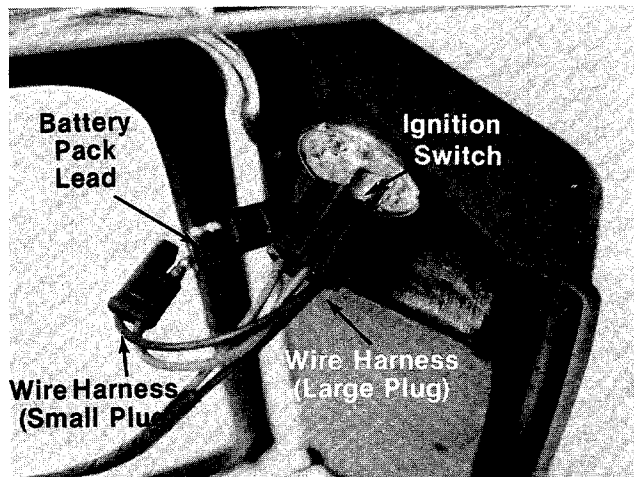

**FIGURE 4.**
5. Place the throttle control in position on the **left** hand side of upper handle. Secure with hex bolt (C) and lock nut (D). See figure 4.